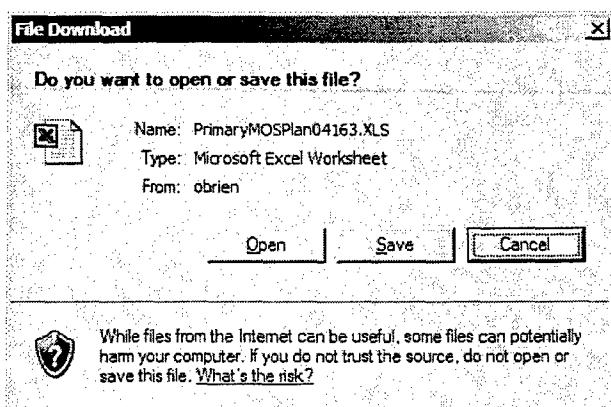

Figure 60. Export Primary MOS Report to Excel
4. You can export the Primary MOS report to a Microsoft Excel workbook by clicking the *Export to Excel* button at the top of the page. The Dialog Box displayed in Figure 60 shows that the workbook is automatically named using the convention *PrimaryMOS&Planname.XLS* (e.g., *MultExampleTest.XLS*). You may either open the workbook directly or save the workbook to a local or remote (network drive).